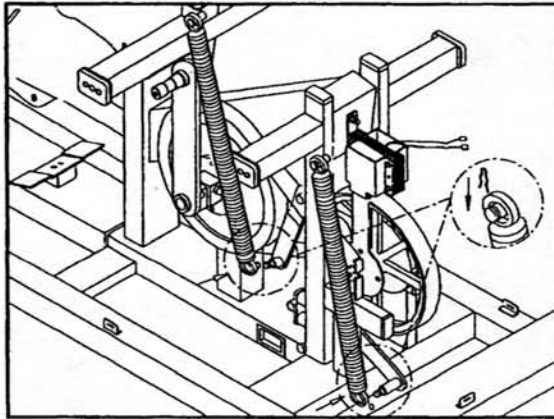

Fig.5-10
5. Install the SPRINGS of the IDLER WHEEL and lock them by inserting the pins (see fig. 5-10).